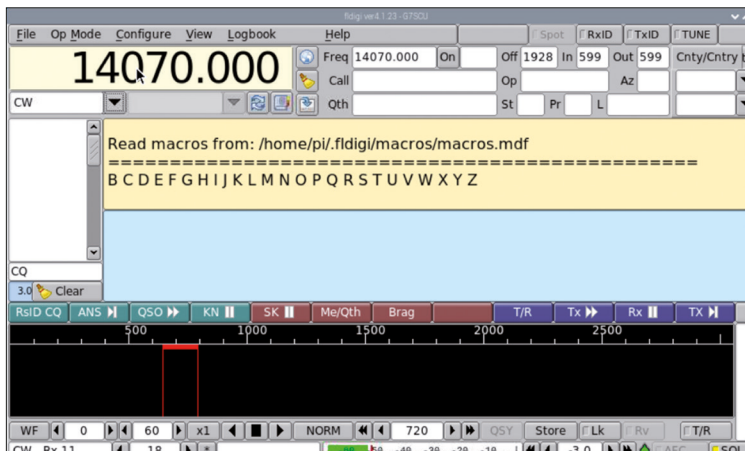

Figure 13.8: Decoded Morse code letters.
- You should see the decoded Morse code text displayed on the yellow part of your fldigi screen as shown in Figure 13.8.